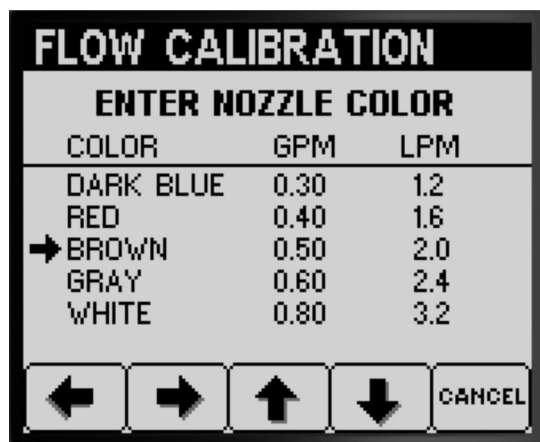

Figure 44
- For machines with nozzle colors that match the flow rates described in Figure 44, select the color of nozzles installed at the active spray position.
- For machines with nozzle colors that **do not match** the flow rates described in Figure 44, select the flow rate (L/pm or gpm) of nozzles installed at the active spray position.
- Press button 2 to advance to the next step (Figure 44).